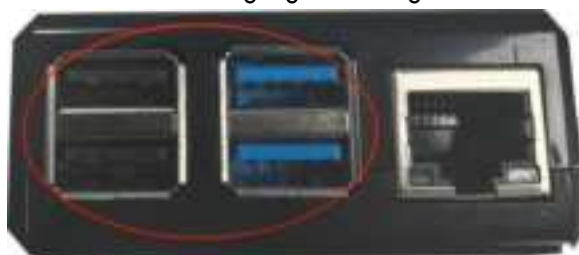

Figure 5 Data ports on Element-D
12. Plug the other end of the Connection Cable into the USB data port on the Element-D. The USB connector may be plugged into any USB port on the Element-D as highlighted in Figure 5.